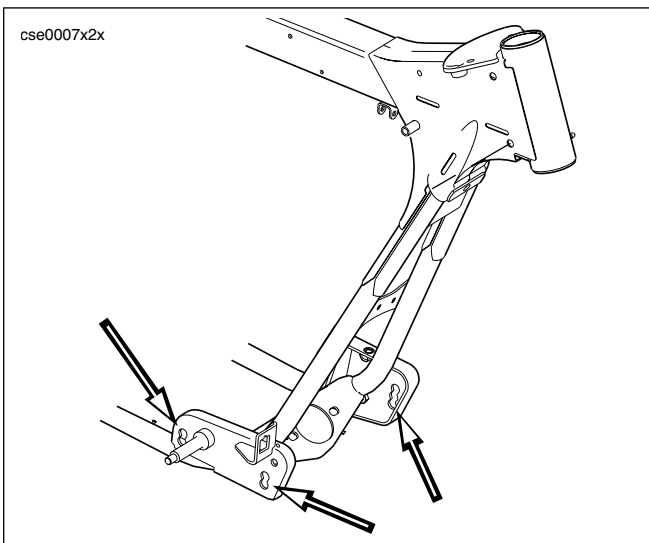

Figure 2-3. Footboard Position Adjustment Holes
- See Figure 2-3. The right and left footboard frame mounts allow a small variance in height and angle of footboards. If footboard brackets are to be removed, make note of their position in adjustment holes in frame mounts before removing them. Make sure to reinstall footboard brackets in same positions.